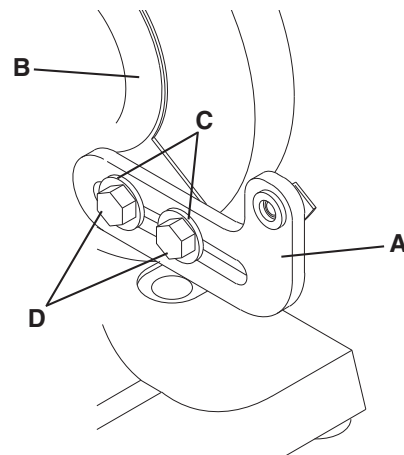

Figure 3 - Assemble tool rest supports.
1. Assemble the tool rest supports (A) to the inside surface of the wheel covers (B) with the flat washers (C) and hex head screws (D) as shown. See Figure 3.